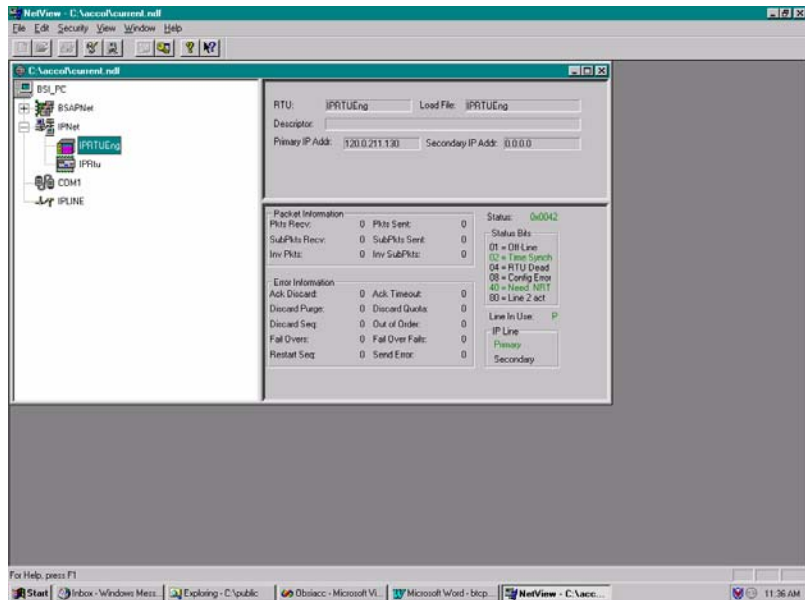

Figure 5-11. NetView
1. Start the NetView program in OpenBSI with your current network NETDEF file. A menu displays (similar to the one in *Figure 5-11*):